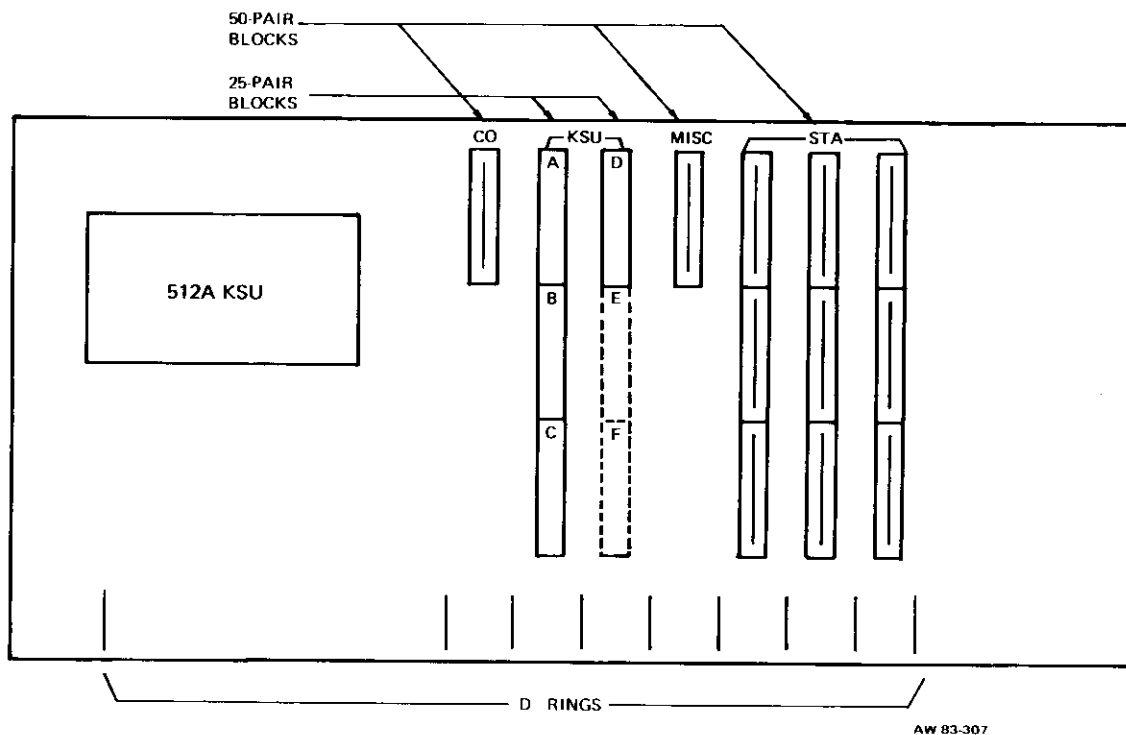

Figure 4: Typical MDF Layout of 512A KSU
4.08 The layout of a typical MDF for a 512A KSU is shown in Figure 4.